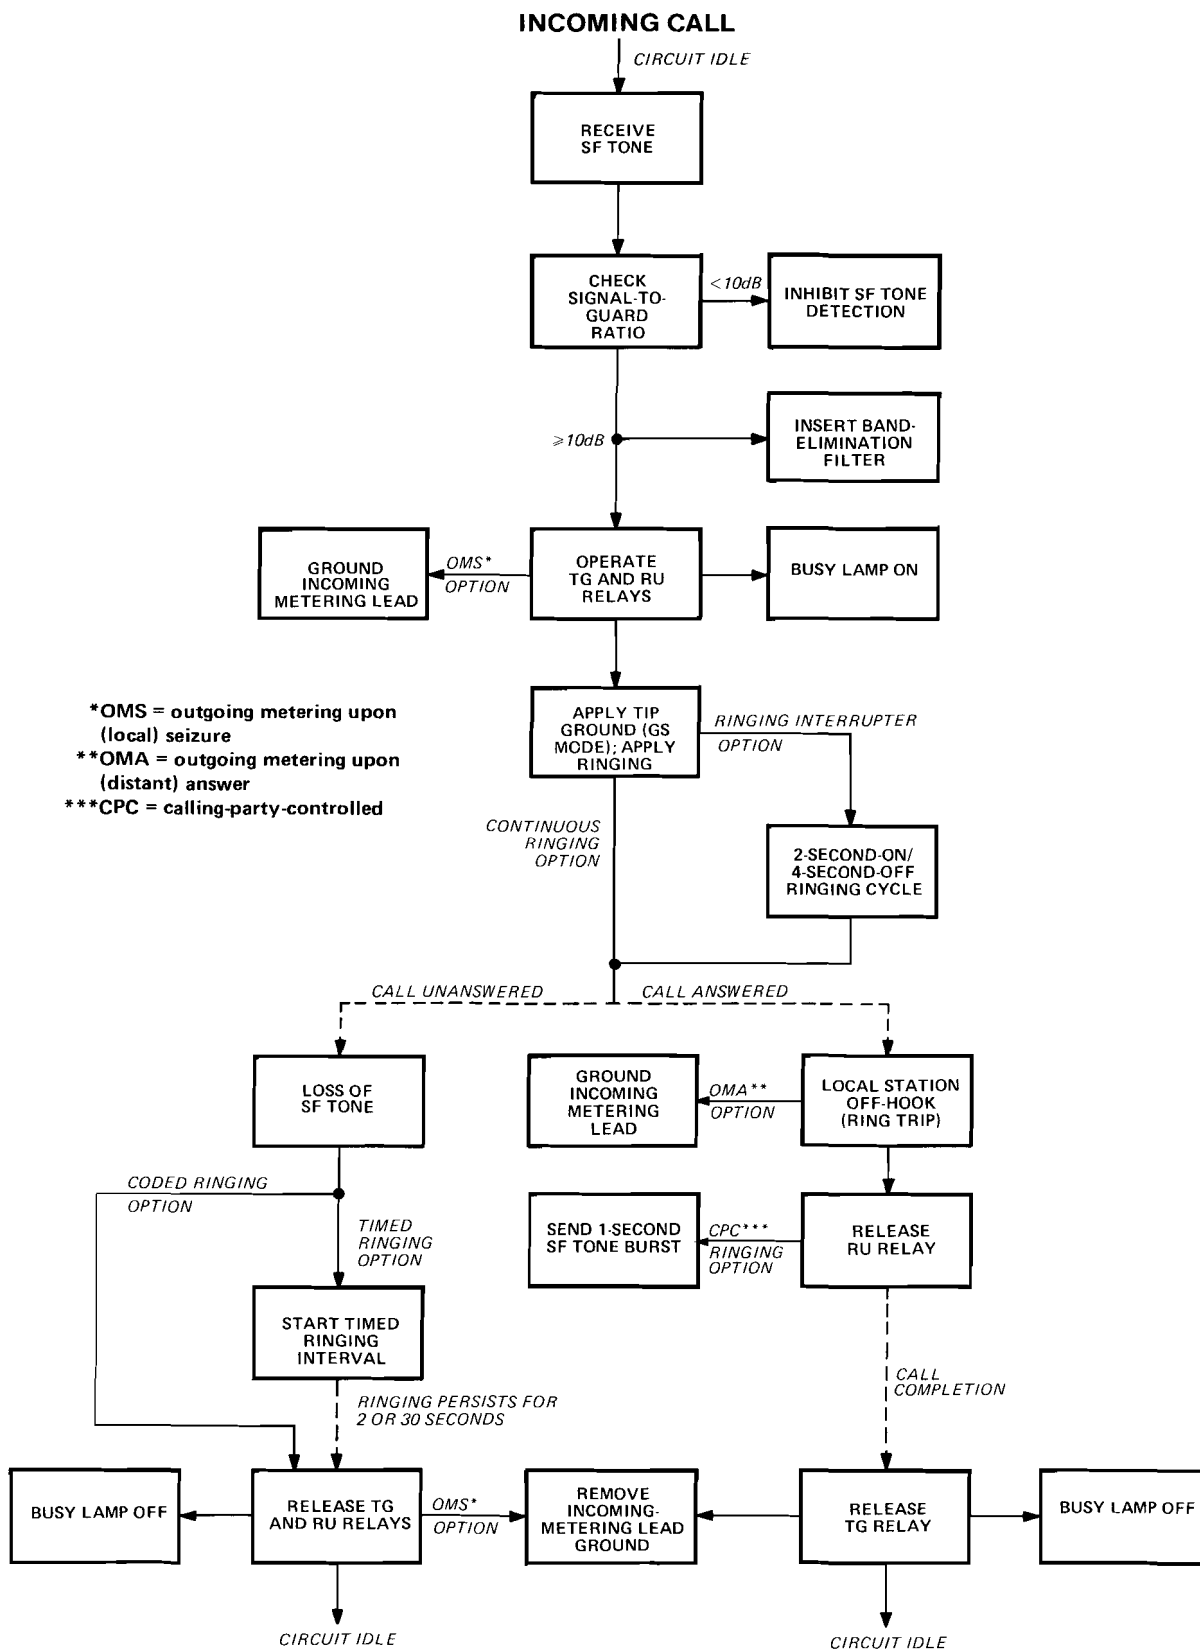

figure 4. Function sequence chart, incoming call
4.01 To provide the clearest possible understanding of the operation of the 6925 2Wire Ringdown SF Signaling Set module, sequence charts (figures 4 and 5) that illustrate sequential operation of the module on incoming and outgoing calls are presented in lieu of a more conventional circuit description. Horizontal paths identify events occurring simultaneously, and vertical paths denote sequential events. Dotted lines indicate elapsed time. These charts may be used to determine whether a module is performing normally by observing the module's response and comparing it to that shown in the chart. Reference to the 6925 functional block diagram (section 5 of this Practice) may aid in understanding the sequence charts.